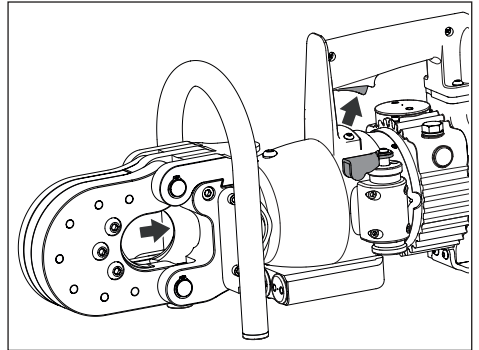

Figure 7, Retract Piston
- With the directional lever in position 2, press and hold the trigger to retract the piston and slide the moving blade rearward. See Figure 7.